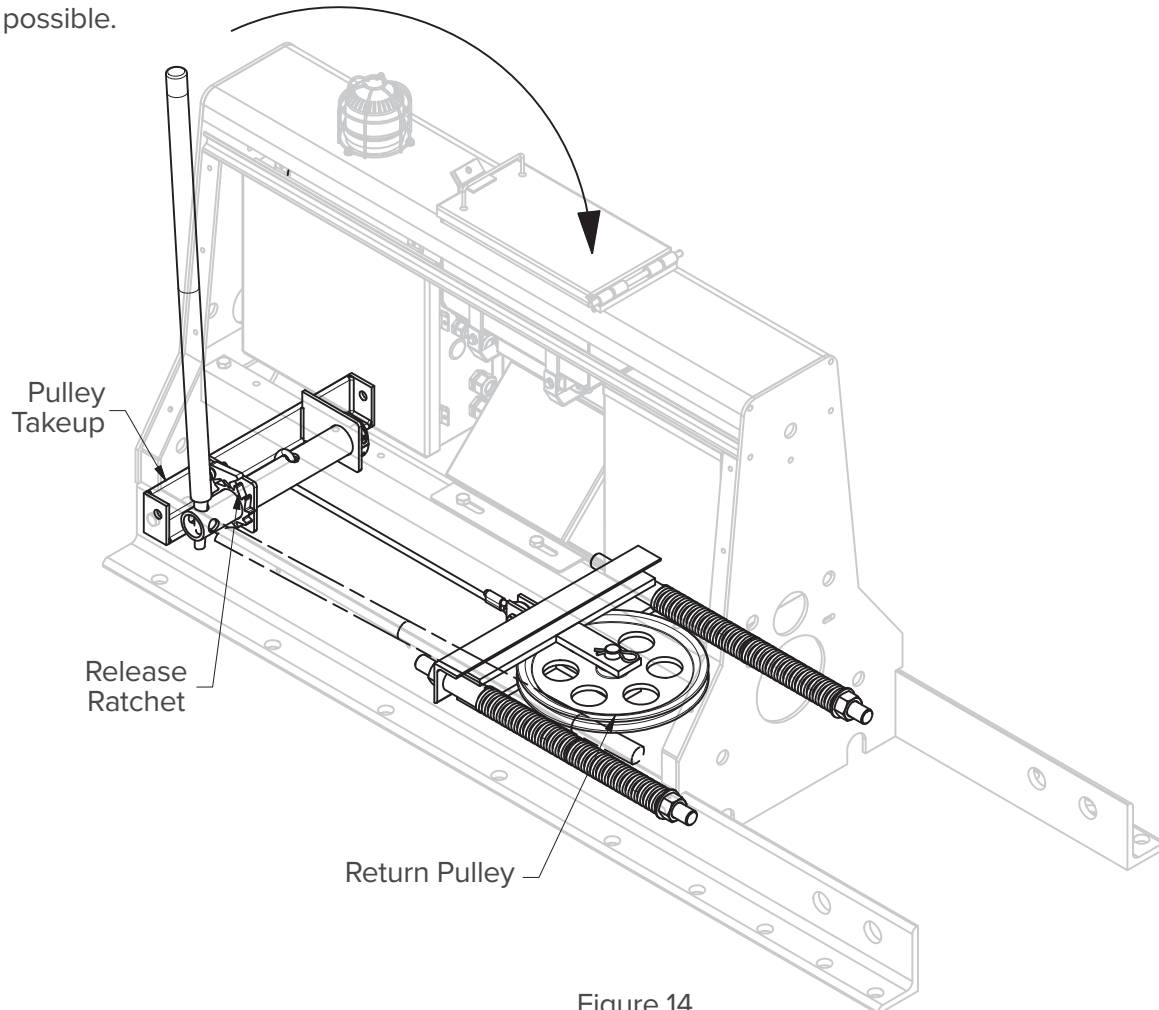

Figure 14
1. **Locate and attach return pulley** (Figure 14). Place return pulley inside steel bulkhead enclosure at the Pulley Wall Assembly. Attach the return pulley cable to the pulley take-up. Turn pulley take-up a partial turn as shown to hold cable in place.